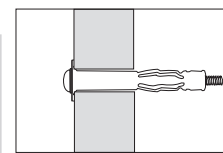

Figure 5
8. Using a suitable tool, rotate the screw head clockwise of the Wall Anchors until it starts to tighten up. It will take many turns. Refer to figures 5, 6 and 7.